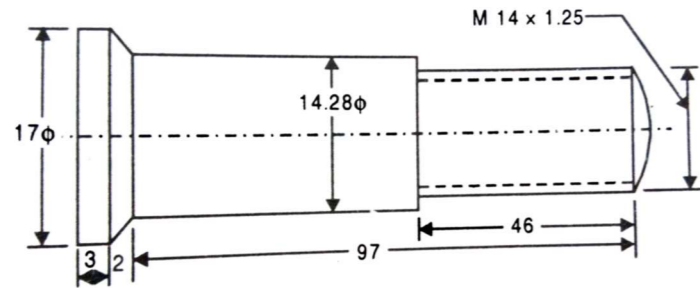

Figure 7 (All dimensions are in millimeter)
- (b) (i) For repetitive manufacturing of the component shown in the figure 7 (10) 2 3